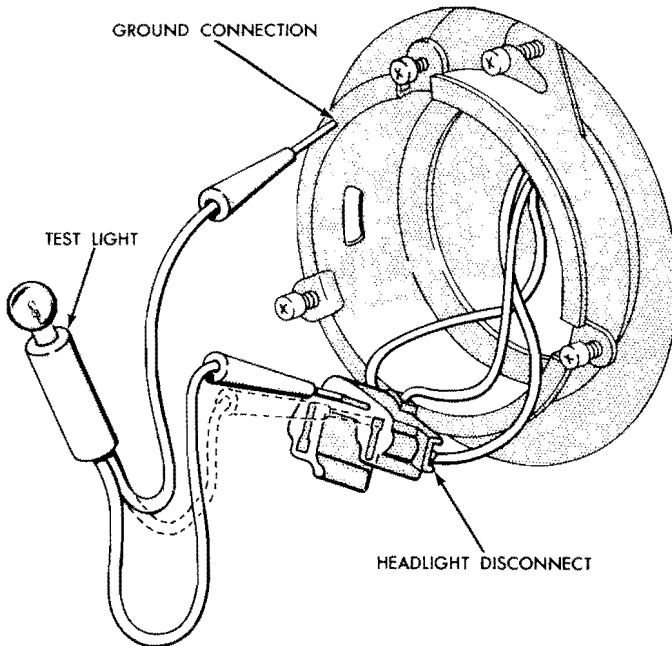

Fig. 16—Headlight Disconnect
- 1-3. Check for power at the low beam terminal in the disconnect (Fig. 16). If there is power, move the ground connection to the disconnect ground terminal. **If there is no power, the ground is bad.** Continue the test for power.